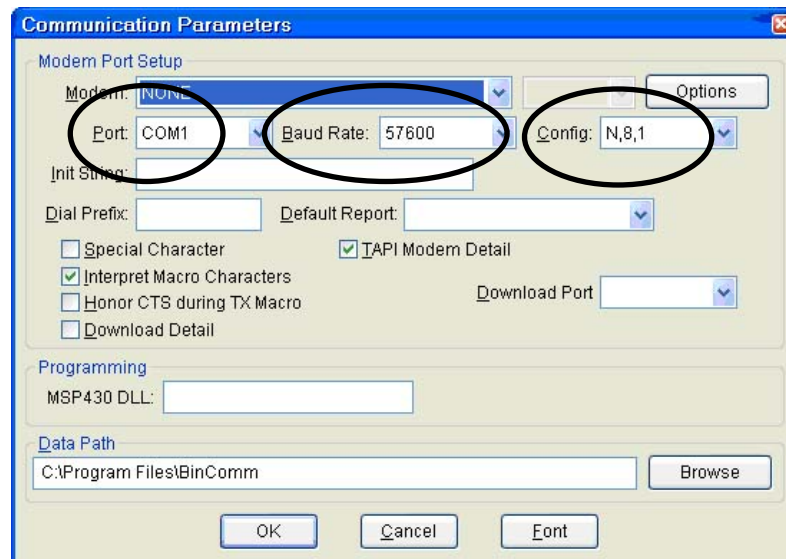

Fig. 10.1: Verify Communication Configuration
- 10.2.3 Verify the Monitor is communicating with the appropriate COM Port, the **Baud Rate** set to **57600** and **Config N,8,1**. Fig. 10.1 (See Section 8.3, **Configure COM Port** for additional details)